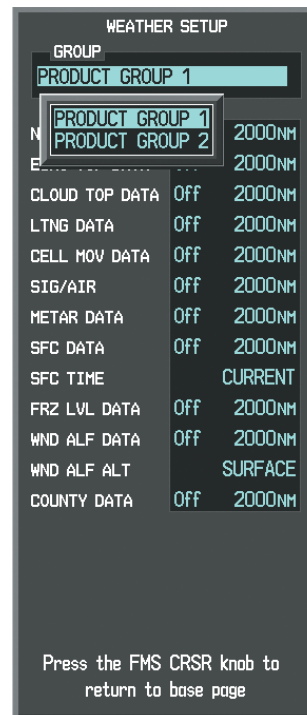

Figure 6-5 Weather Data Link (XM) Page Setup Menu
- 4) Turn the small **FMS** Knob to select 'Product Group 1' or 'Product Group 2', and press the **ENT** Key (Figure 6-5).
- 8) Press the **FMS** Knob or **CLR** Key to return to the Weather Data Link (XM) Page with the changed settings.